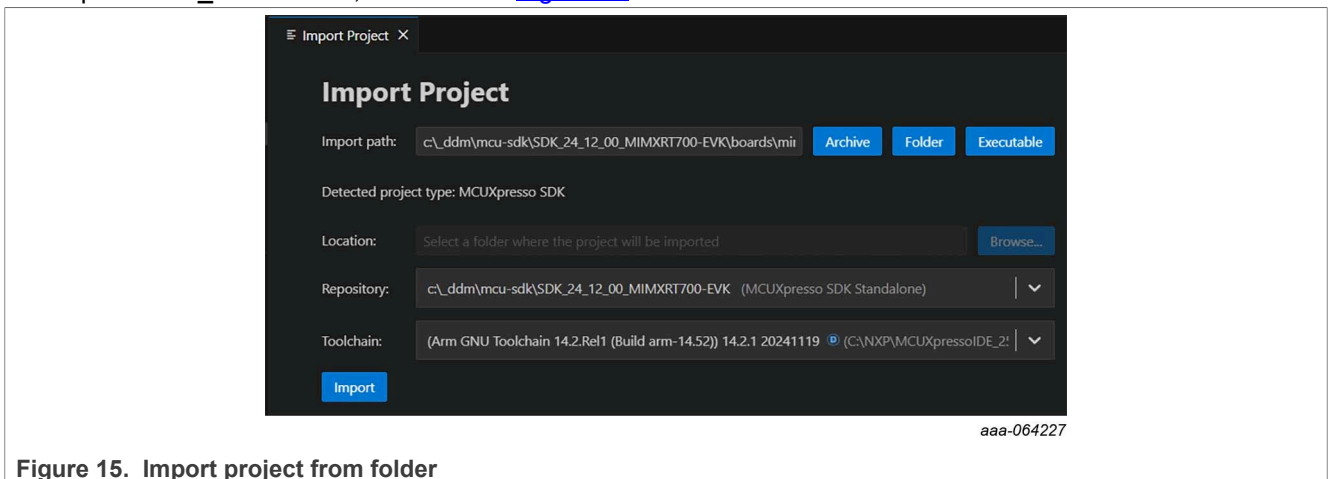

Figure 15. Import project from folder
2. Import `cm33_core1` folder, as shown in Figure 15.